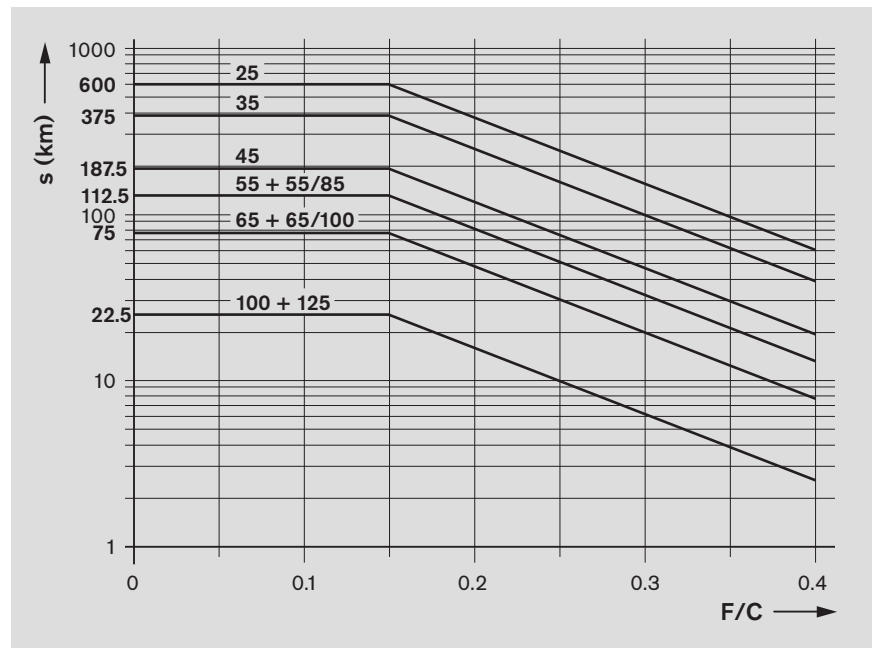

Fig. 10
- Apply the minimum quantity according to Table 7 to the lube port until the relubrication interval as specified (in Fig. 10) has been reached.
The lubricant cycle time can then be obtained by dividing the relubrication interval (according to Fig. 10) by the calculated pulse count (see design example on page 163).
- Apply the minimum quantity according to Table 8 per lube port until the relubrication interval as specified (in Fig. 10) has been reached. Calculate the required pulse count and lubricant cycle time in the same way as for relubrication (normal stroke).